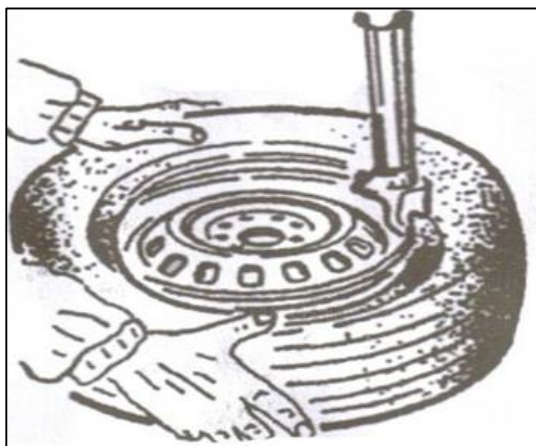

Fig. 22
4.2.3 If there is tube, place it in the tire and plug the core and assemble the lip according to the above mentioned step (Fig. 22).